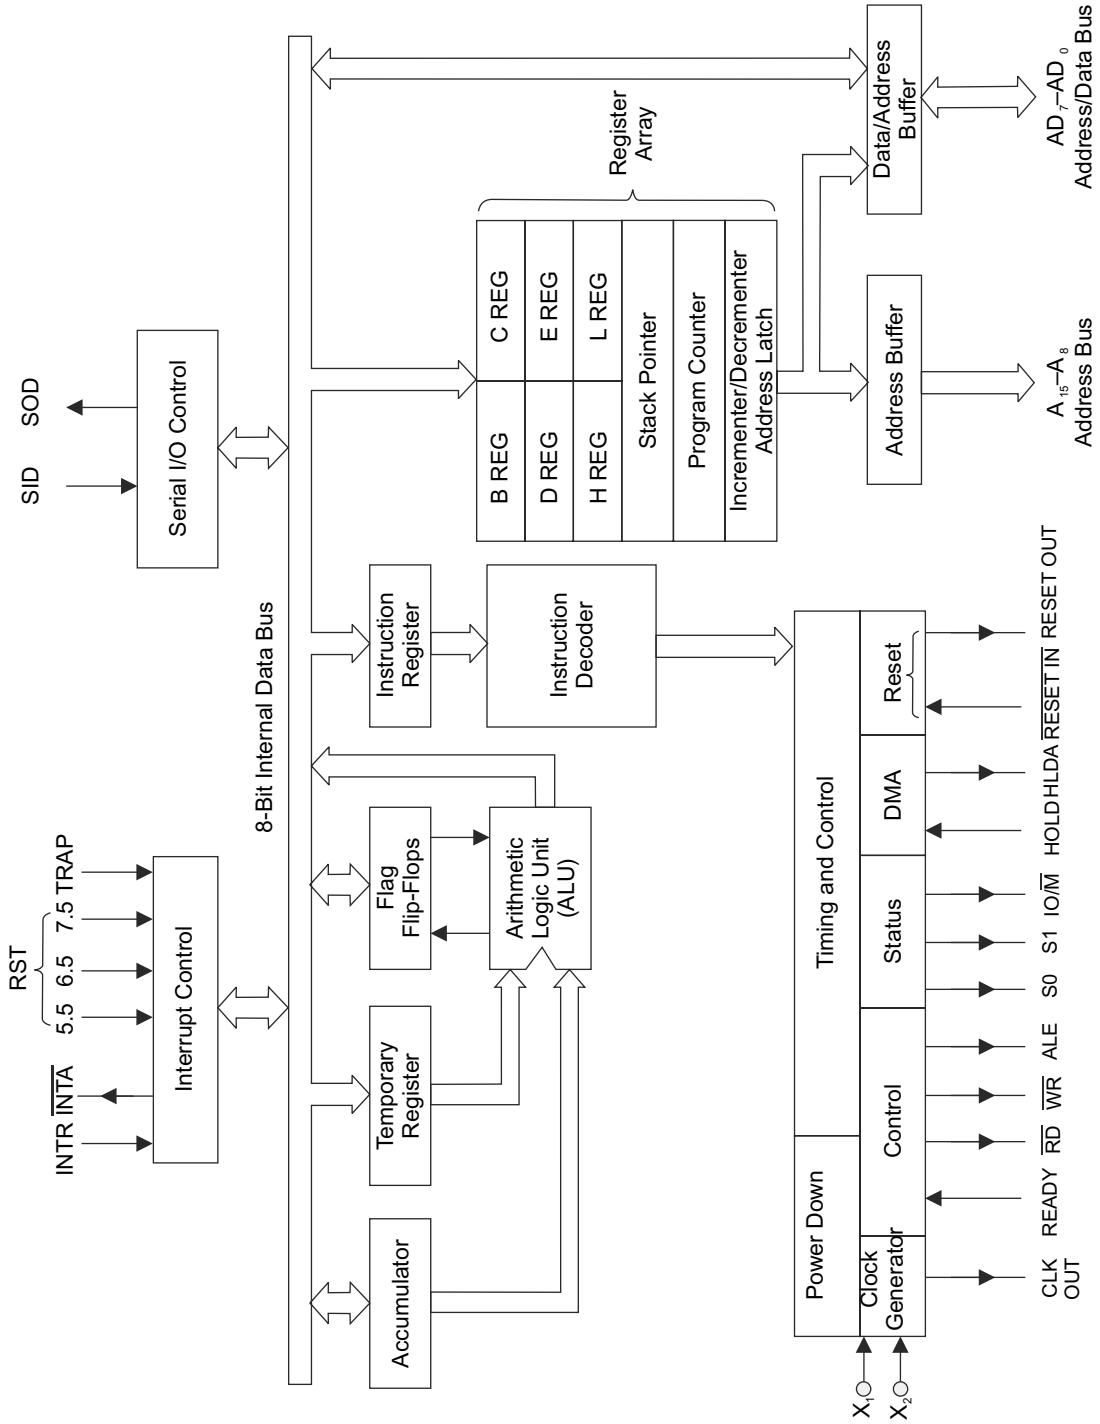

Fig. 2.1 Architecture of 8085 Microprocessor
The functional block diagram of Intel 8085 is depicted in Fig. 2.1. It consists of three main sections: an arithmetic and logic unit, timing and control unit and a set of registers. These important sections are described in the subsequent pages.
The Intel 8085 has six general-purpose registers to store 8-bit data and these registers are identified as B, C, D, E, H and L. When two registers are combined, 16-bit data can be stored in a register pair. The only possible combinations of register pairs are BC, DE and HL. These register pairs are used to perform 16-bit operations. There is an accumulator register and one flag register. The accumulator is an 8-bit register. Arithmetic and logical operations are performed in the accumulator and after operation, the result will be stored in the accumulator. In addition with the above registers, there are two 16-bit registers, namely, the Stack Pointer (SP) and Program Counter (PC). The following registers of Intel 8085 microprocessor have been depicted in Fig. 2.1:
- ◆ One 16-bit Stack Pointer (SP)
- ◆ One 16-bit Program Counter (PC)